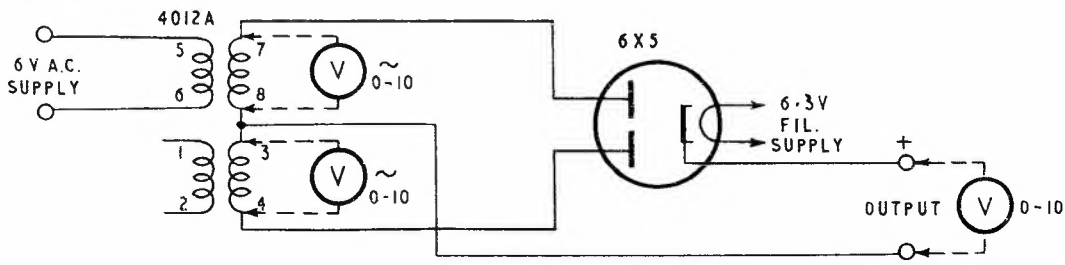

FIG. 2.
STEP 4. Connect the circuit as shown in Fig. 2.